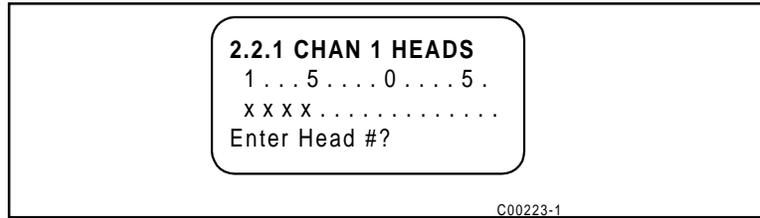

Figure 3-5 Assign Heads Displays
4. Figure 3-5 shows the display when adding or deleting heads. The ‘x’ signifies a selected head. To add or delete a head, enter the number of the head, then press ENTR. When finished, press ENTR again without an entry.